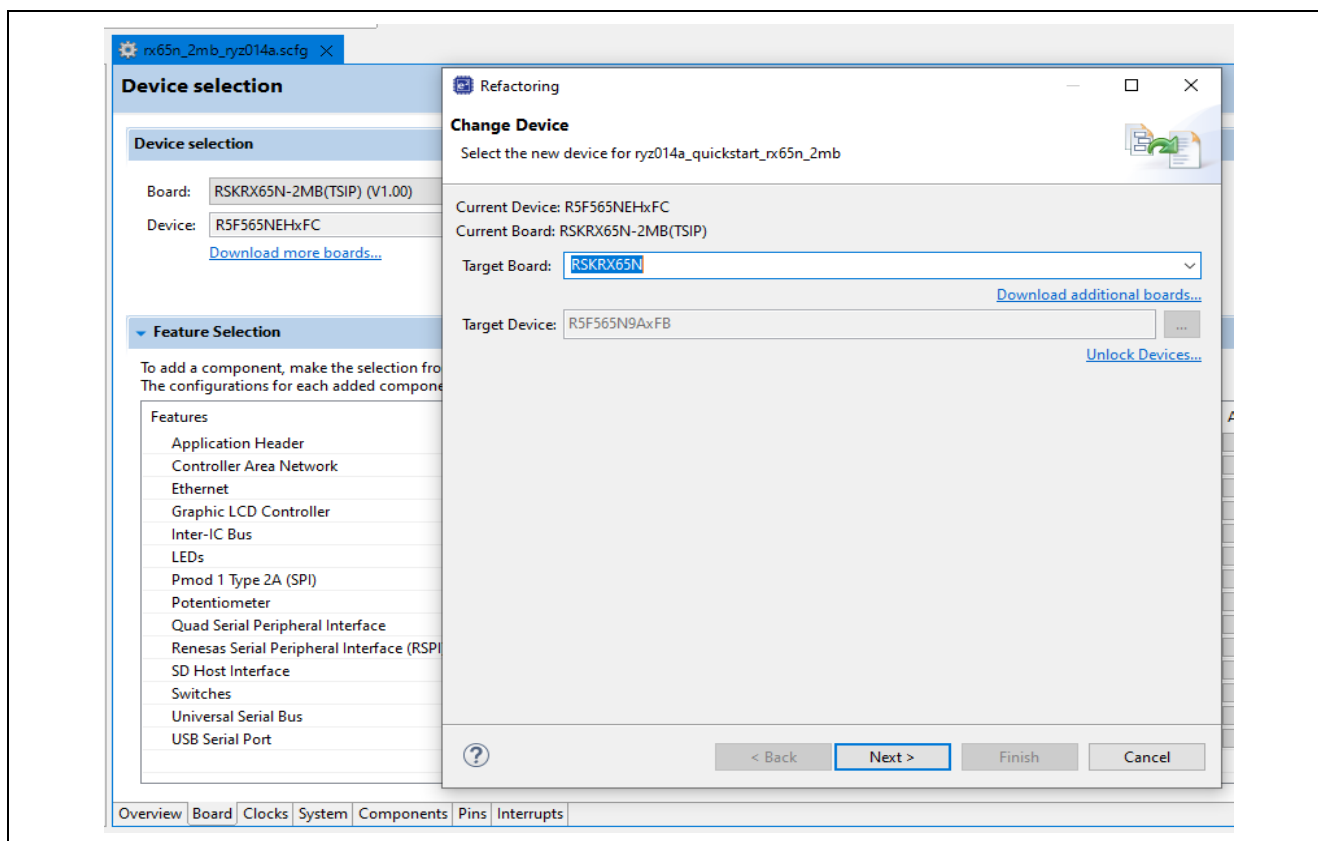

Figure 17. Modifying the Device Selection
- For example, in the **Board** tab of the configurator, the user can use to modify the Device Selection. Figure 17 illustrates modifying the **Board** selection.